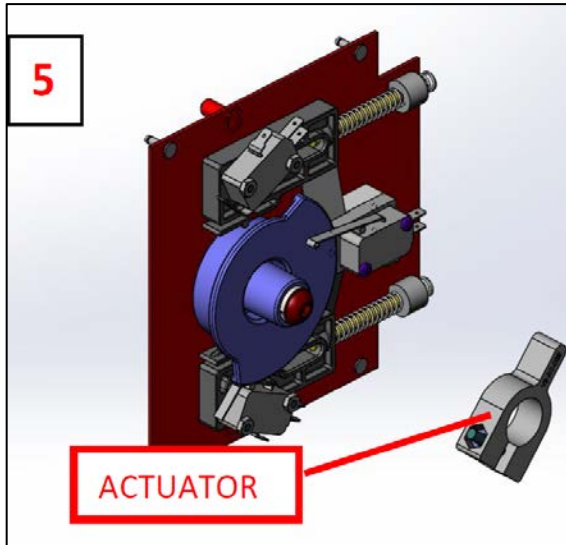

Figure 5: Remove Actuator
7. Slide the actuator off the cylinder as shown in **Figure 5** and retain for reinstallation.